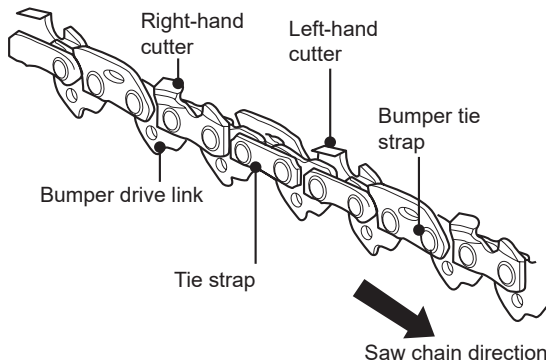

Fig. 40
- > Have your chain (4) sharpened professionally at an authorised service centre or sharpen the chain yourself using a proper sharpening kit. Also observe the sharpening instructions supplied with the sharpening kit.
- > The height difference between the tooth and the ridge is the cutting depth. When sharpening the saw chain (4) you have to consider the following points (Fig. 40).